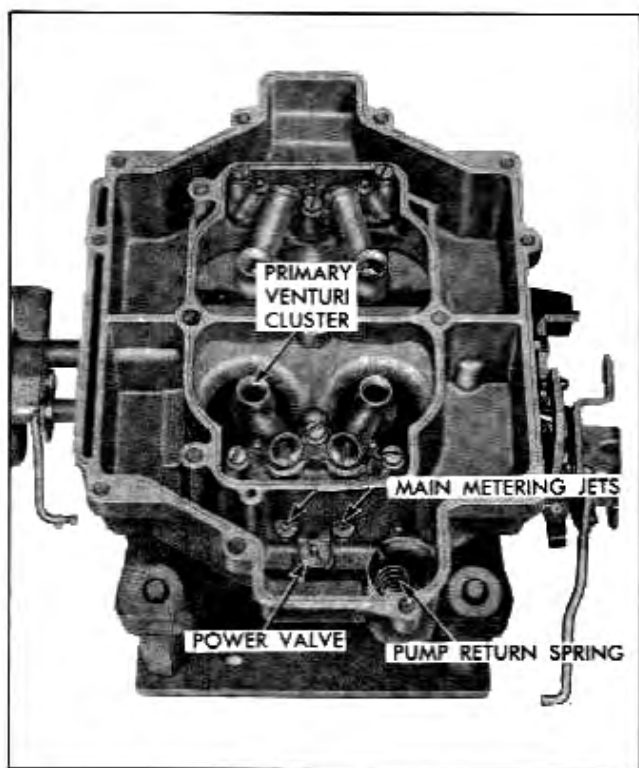

Fig. 6B-43 Carburetor Body Assembly
13. Remove power piston assembly from air horn by depressing piston stem and allowing it to snap free or by holding stem and tapping lightly on air horn with a non-metallic object (Fig. 6B-42).